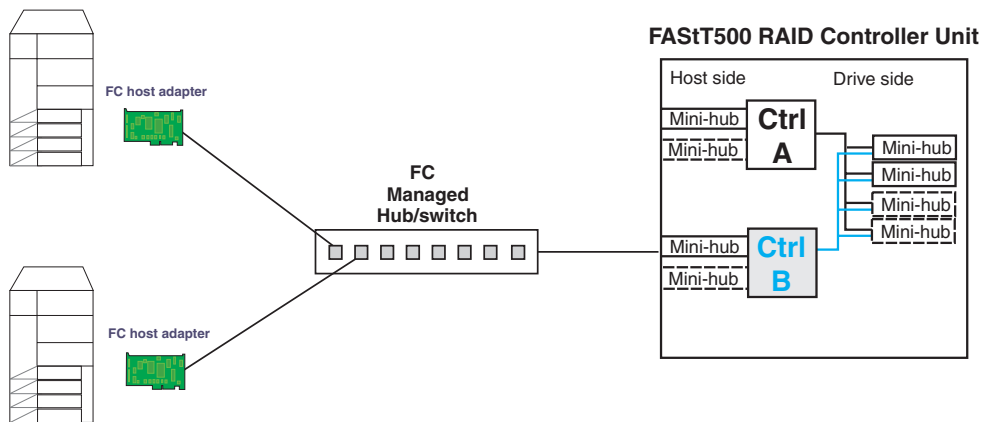

Figure 126. All I/O flowing through controller A
2. All I/O is flowing through controller A. This yields the diagram shown in Figure 126 for debugging.